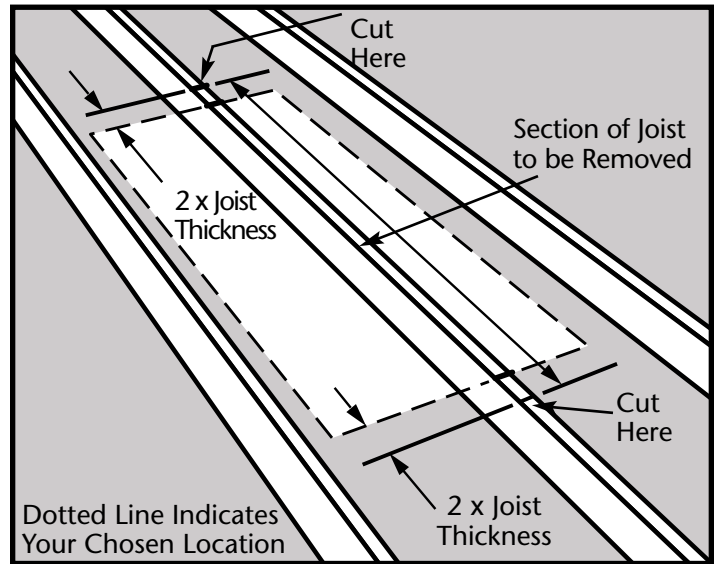
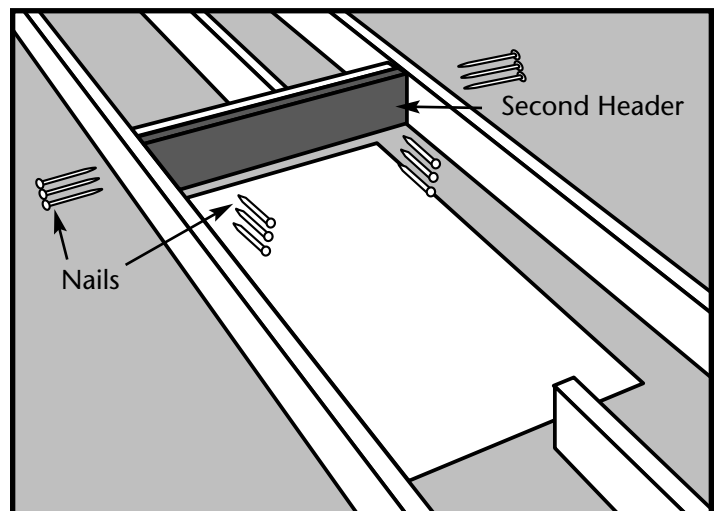

Figure 11
Figure 17
STEP 4. Next, determine where the joist(s) should be cut. Figure 11 shows where to mark the joist(s) that span your chosen location. Note that the joist(s) should be marked back from the edge of your location a distance of 2 times the joist thickness (usually three inches). This leaves room for two joist-sized headers to be placed against each end of the cut joist(s) (see Figure 17 on page 10).
- STEP 6.** Place a second header against the first header and nail it to the first header with 3 nails (16d) between each joist as shown in Figure 17.
- STEP 7.** Drive 3 nails (16d) through the joists into each end of the second header as shown in Figure 17.